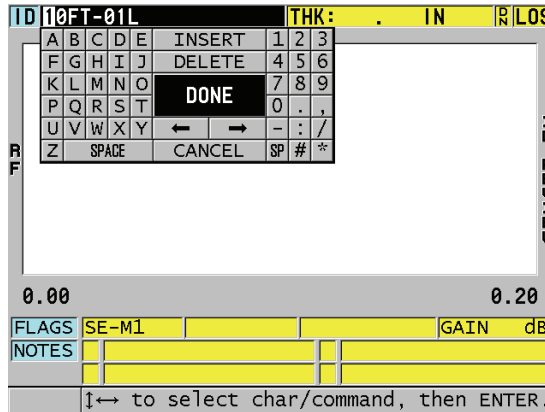

Figure 11-28 Editing the ID # edit mode
4. Press **[ID#]** again, and edit the ID value (see Figure 11-28 on page 197).